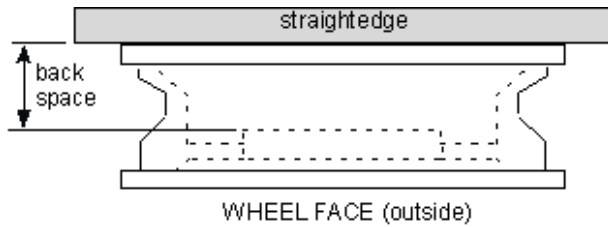

Figure 2: Wheel Back Space Diagram
- a. Wheel back spacing shall be between 3½" and 4½". Back space is measured according to Figure 2.